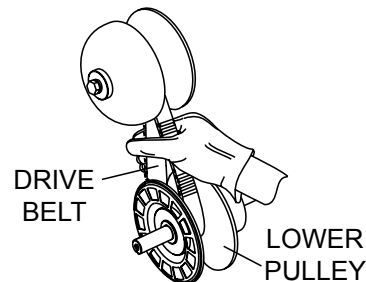
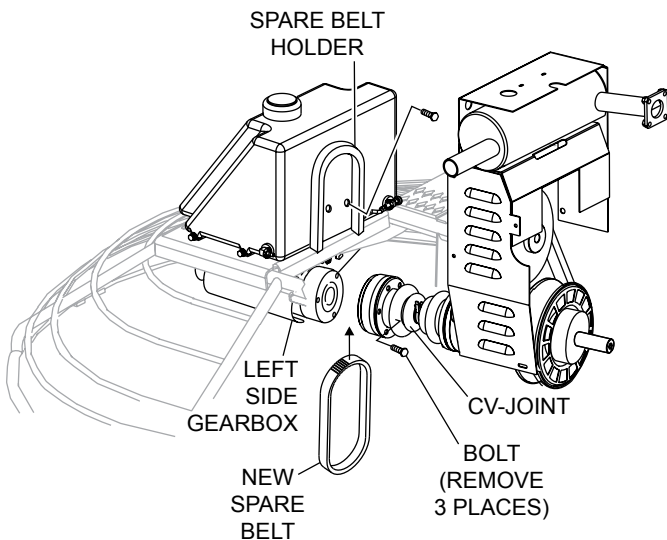

Figure 17. Expanding Lower Drive Pulley
Figure 20. Replace Spare Belt
2. Squeeze the drive belt as shown in Figure 17, and pull the belt upwards. This will spread open the faces of the lower drive pulley.
3. Insert the wooden block (Figure 17) between the moveable face and the fixed face of the lower drive pulley. See Figure 20. This block will help keep the lower drive pulley faces open while installing the new drive belt.
To replace a spare drive belt, be prepared to disconnect the CV-joint from the left-side gearbox. See Figure 20.